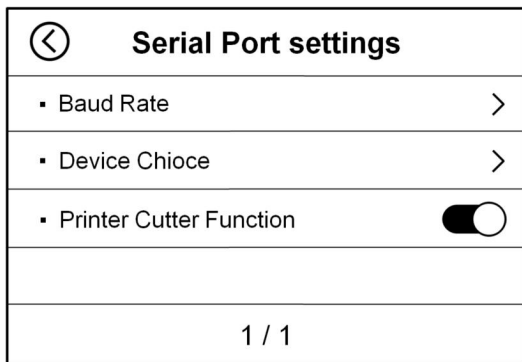
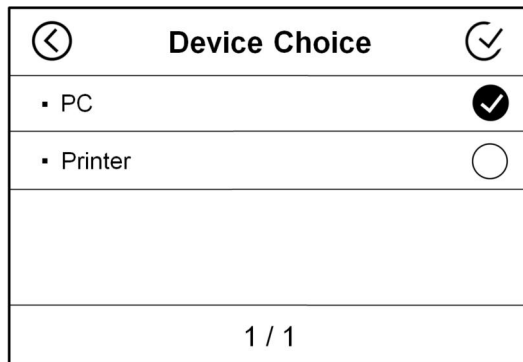

Figure 79
Figure 80
2) Touch the “**Serial Port**” key to enter the baud rate setting interface, as shown in Figure 79 below. First touch the second item “**Device Choice**” to enter the peripheral selection interface. In this interface, type “” after the first item “**PC**” as shown in Figure 80 below., and then touch the “” key in the upper right corner to save, and it will automatically transfer to the interface shown in Figure 79.